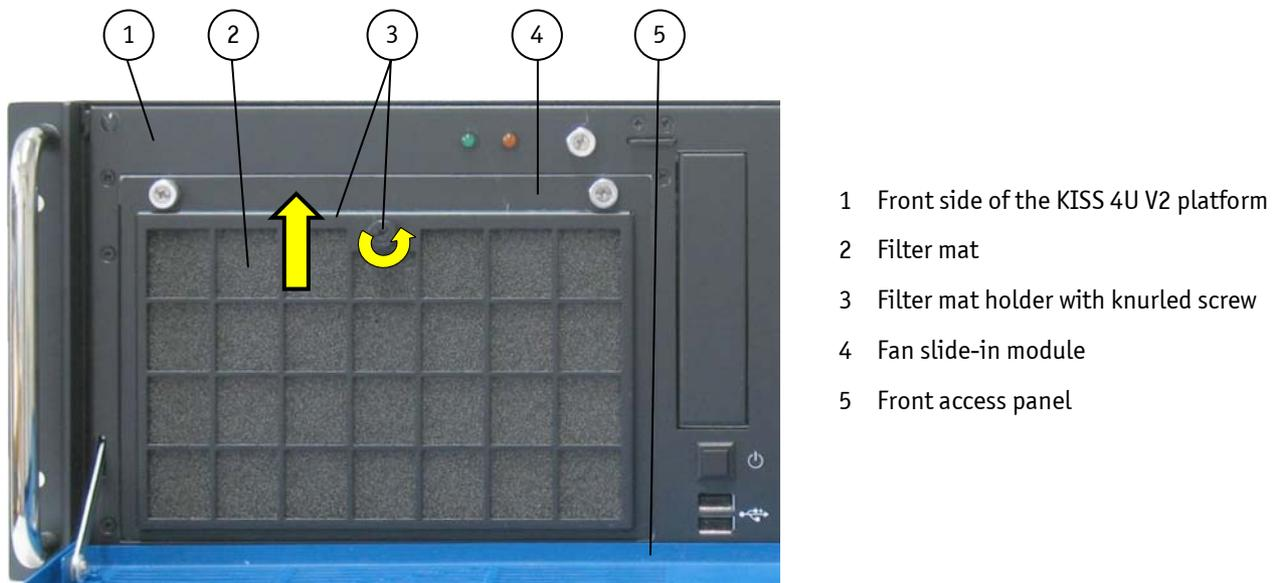
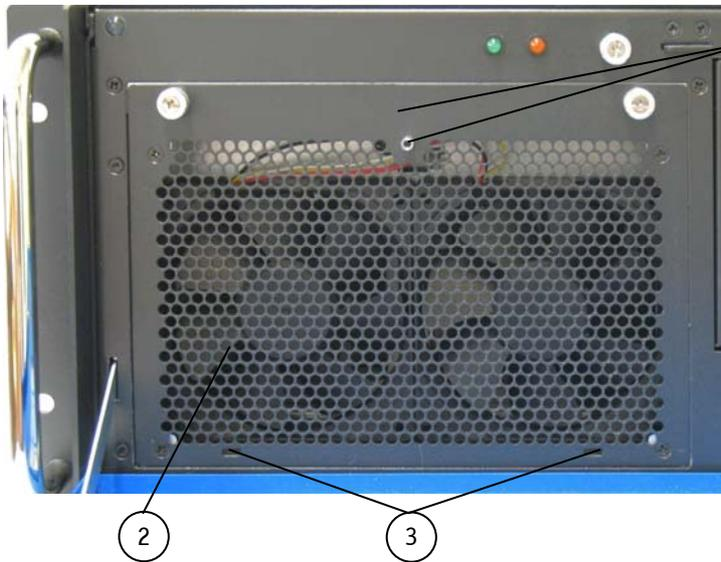

Fig. 37: Detail: Filter mat holder on the front side of the KISS 4U V2 platform
Fig. 38: Detail: without filter mat at the front side
The filter mat is inserted in the filter mat holder at the front side of the fan slide-in module (Fig. 37, pos. 4). The soiling of the filter mat is caused by the pollution of the operating environment. A heavily soiled filter mat can cause excessive heating of the device. For this reason we recommend to clean the filter mat as often as necessary. The filter mat can be changed during operation of the system.
1. Open the front access panel (Fig. 37, pos. 5).
2. Loosen the knurled screw that secures the filter mat holder to the fan slide-in module (Fig. 37, pos. 4 and Fig. 39, pos. 5).
3. Pull the filter mat holder out of the positioning holes (Fig. 38, pos. 3) into the marked direction (see Fig. 37) and lift it off.
4. Remove the soiled filter mat (Fig. 37, pos. 2 and Fig. 41).
7. Reattach the filter mat holder to the front side of the fan slide-in module by inserting the positioning plates (Fig. 39, pos. 6) into the positioning holes (Fig. 38, pos. 3).
8. Fix the filter mat holder by tightening the knurled screw (Fig. 39, pos. 5) to the bolt with tapped hole (Fig. 38, pos. 1) at the fan slide-in module.
**Legend for Fig. 38 and Fig. 39:**